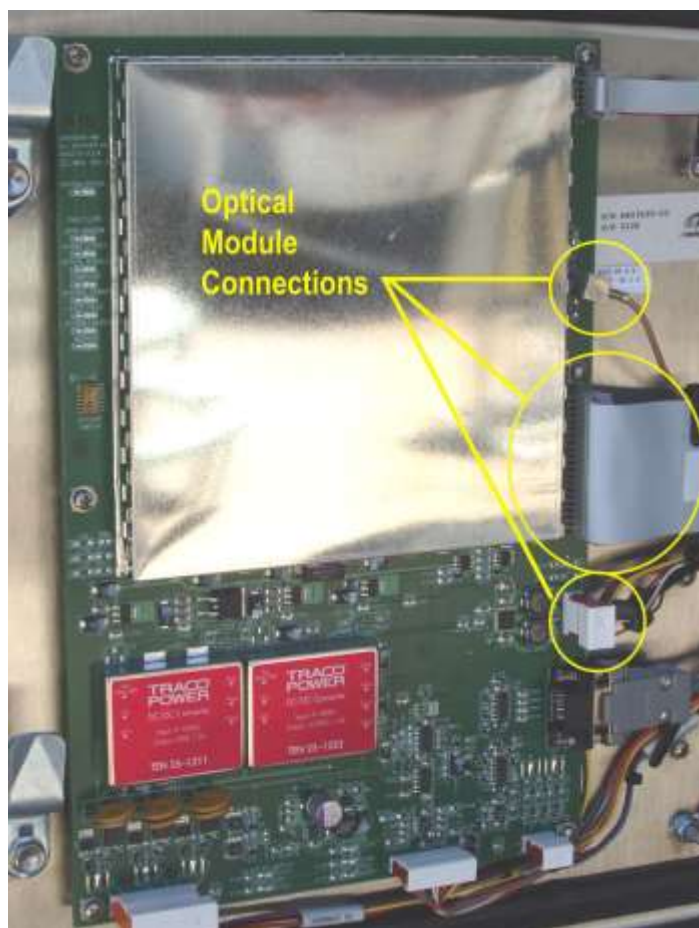
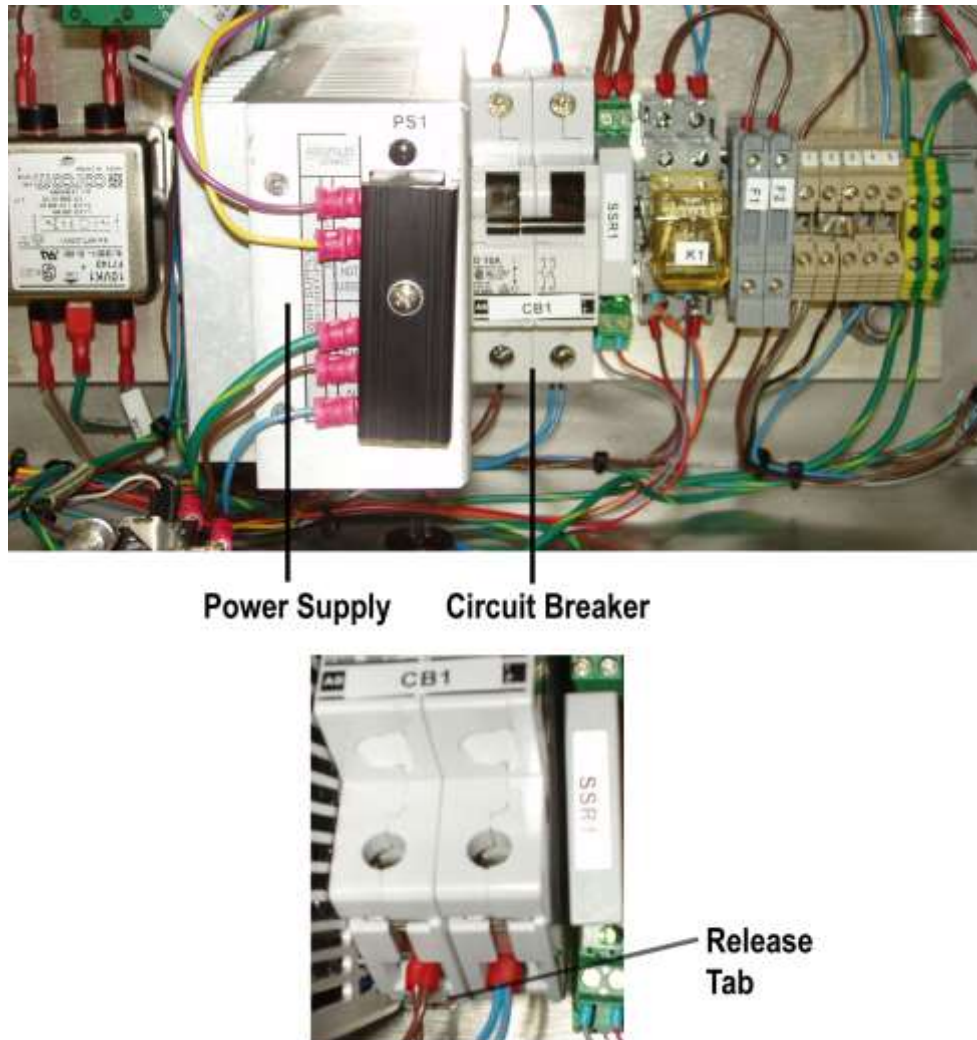

Figure 16. Optical Module Connections at the Data Acquisition Board
Figure 19. DIN Rail Component Removal
2. Check connections between modules (see Figure 16, Figure 17, Figure 18, and Figure 19). Remove connectors and reconnect them, then turn the system on again.
3. If both the optical module and Data Acquisition Board indicate failures, disconnect the optical module's three cables from the Data Acquisition Board to ensure it is not causing the Data Acquisition Board to fail (see Figure 16).